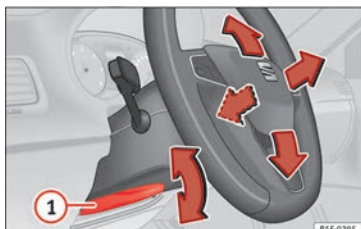

Fig. 13 Lever in the lower left side of the steering column.
• Adjusting the position of the steering wheel: Pull the » » **Fig. 13** ① lever down, move the steering wheel to the desired position and lift the lever back up until it locks.